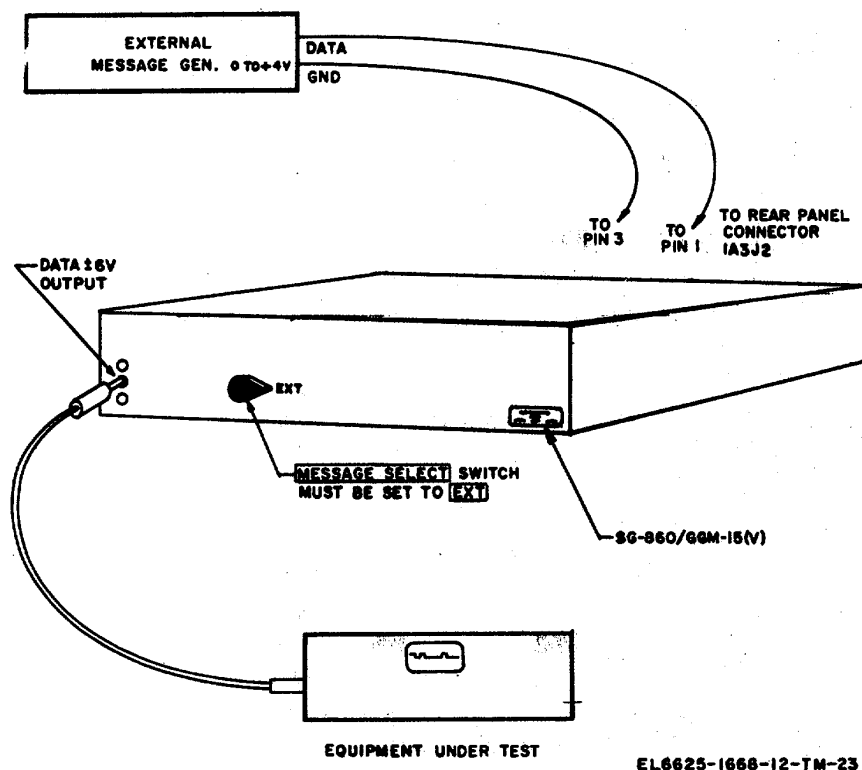

Figure 3-8. External message test setup.
(8) *Typical EXT message operation.* The following is a typical example of an external (free run) message operation. For the purpose of this procedure 25% switching bias distortion is introduced to the message. The output signal applied to the equipment under test is low level ± 6 volts polar (fig. 3-8).